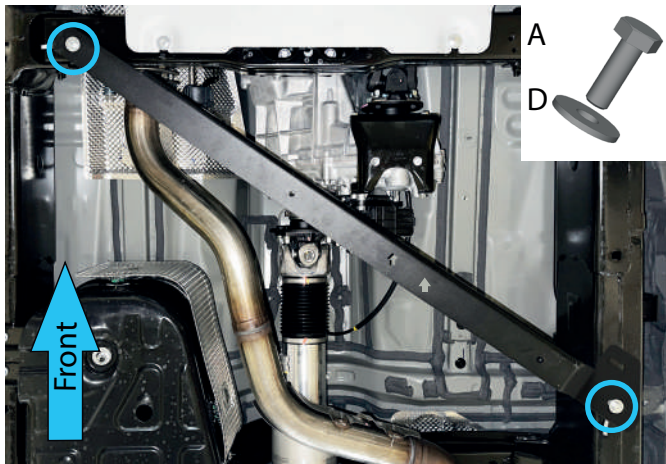

Fig. 2
2. Install the mounting bracket (item 2) using M8x25 bolts (item A) and M8 washers (item D) as shown in Fig.2.